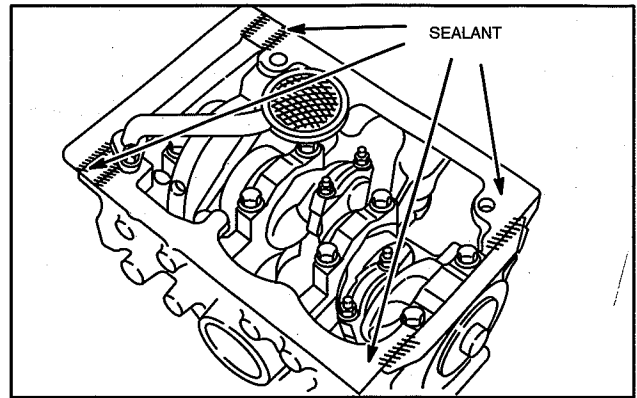

Fig. 19 – Installing Oil Pan
1. Install oil pan with new gasket, Fig. 19.